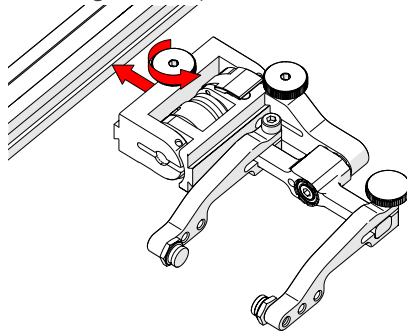

Fig. 35 - Attach to frame bar
1. Rotate the probe holder adjustment knob and attach the probe holder to a frame bar (Fig. 35).